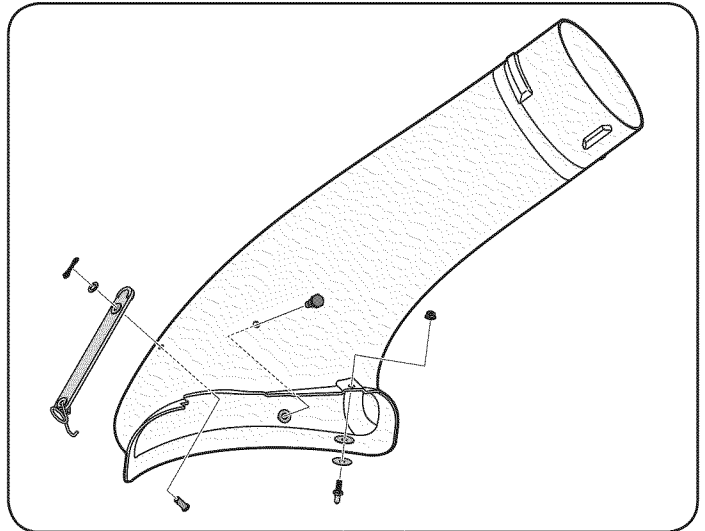

Figure 18
9. Install one of the rubber chute straps (723-04008A) onto the discharge chute elbow using one of the supplied clevis pins (711-05063), washer (736-0204) and Bow-tie cotter pins (7104040) from hardware pack 689-00092B. See Fig. 18. Secure the end of the strap utilizing the hole furthest from the end, and insert the torsion spring hook (732-04510A) from the same hardware pack into the other end of the rubber strap.
10. Install the deck mounting pin (711-05049) up into the chute elbow using the flat washer (736-0176) from hardware pack 689-00092B and secure with a flange lock nut (712-3027), as seen in Fig. 18.
11. Install the shoulder bolt (738-0754) into the chute elbow from the top side and secure inside the chute elbow using a flange lock nut (712-04063) from the same hardware pack (689-00092B). See Fig. 18.